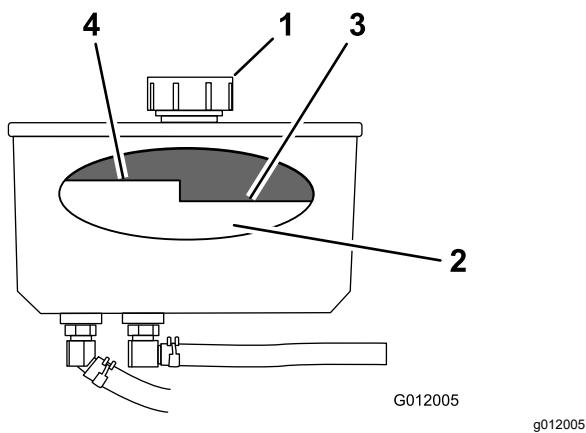

Figure 68
3. Clean the area around the cap and the filler neck of the hydraulic tank (Figure 68).
4. Remove the cap from the filler neck (Figure 68).
**Note:** The fluid level should be below the hot level of the baffle when the fluid is warm (Figure 68).